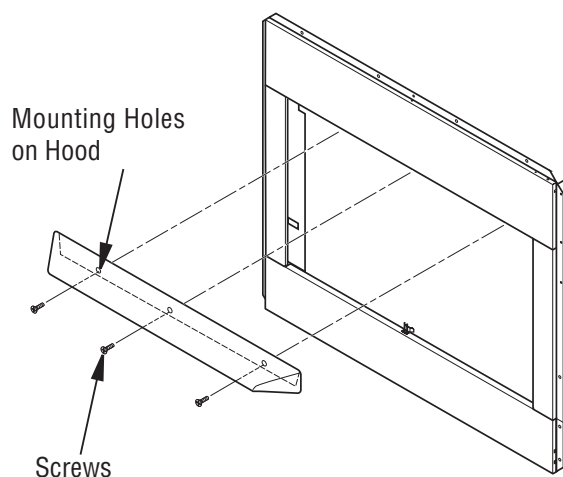

Figure 7 - Installing Hood
2. Align three mounting holes located on back side of hood with front face of fireplace (see Figure 7). Mounting holes should be at least 2" up from edge of fireplace opening.